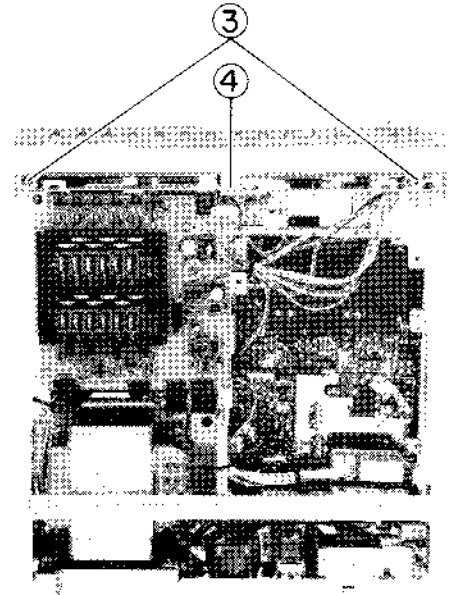

Fig. 2-3 Front cover ass'y
3. Take out 2 screws ③ shown in Fig. 2-3 and while using care regarding stud ④, remove the front cover assembly.